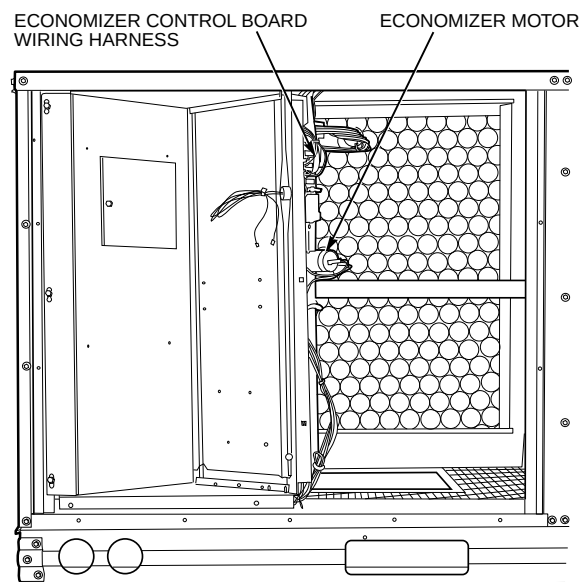

Fig. 15 — Horizontal Varislide Economizer Installation (90 Degree Rotation)
- a. Rotate the economizer 90 degrees until the economizer motor faces the outdoor section (see Fig. 15).